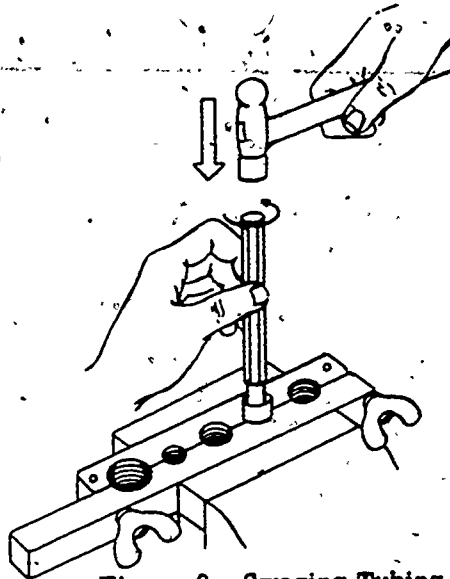

Figure 9. Swaging Tubing
d. Use light strokes with a ball peen hammer and drive the swaging tool into the tubing (see figure 9).